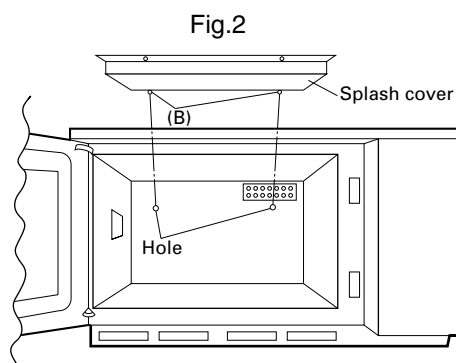

Fig.2
How to replace the splash cover : Insert 2 projections (B) of the cover into the holes of the oven cavity backplate as shown in Fig.2. Then slide 2 tubs (A) in the opposite direction of the arrows as shown in Fig.1.